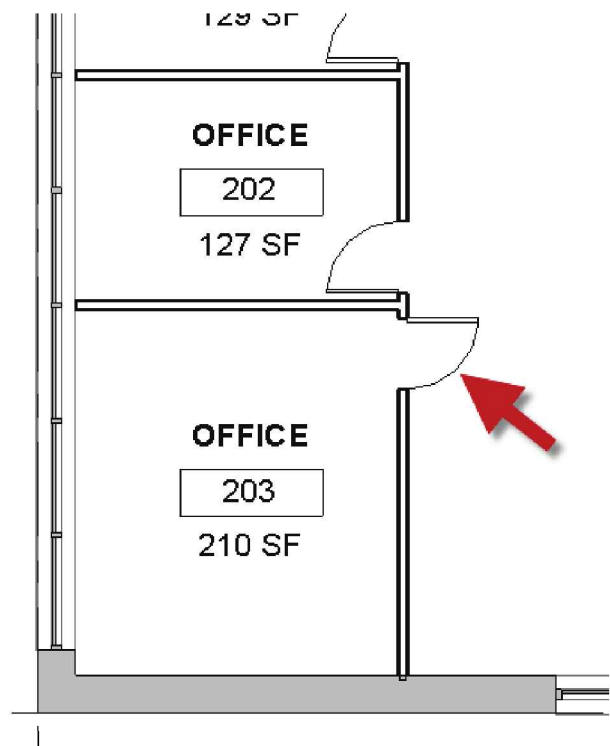

FIGURE 17-4.13 User A changed door swing
26. **USER A:** In the **Level 2 – New** floor plan, change the door swing in Office 203 as shown in Figure 17-4.13.